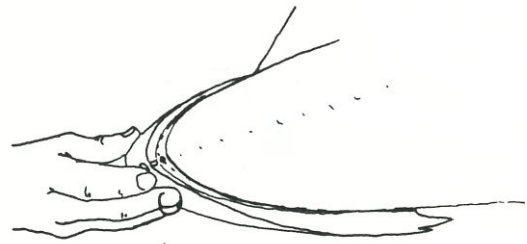

FIG. 10
10. The wingtip fairings are attached by sliding them over the winglet spars from front to back, snap into place, and press closed the velcro.(fig.10)